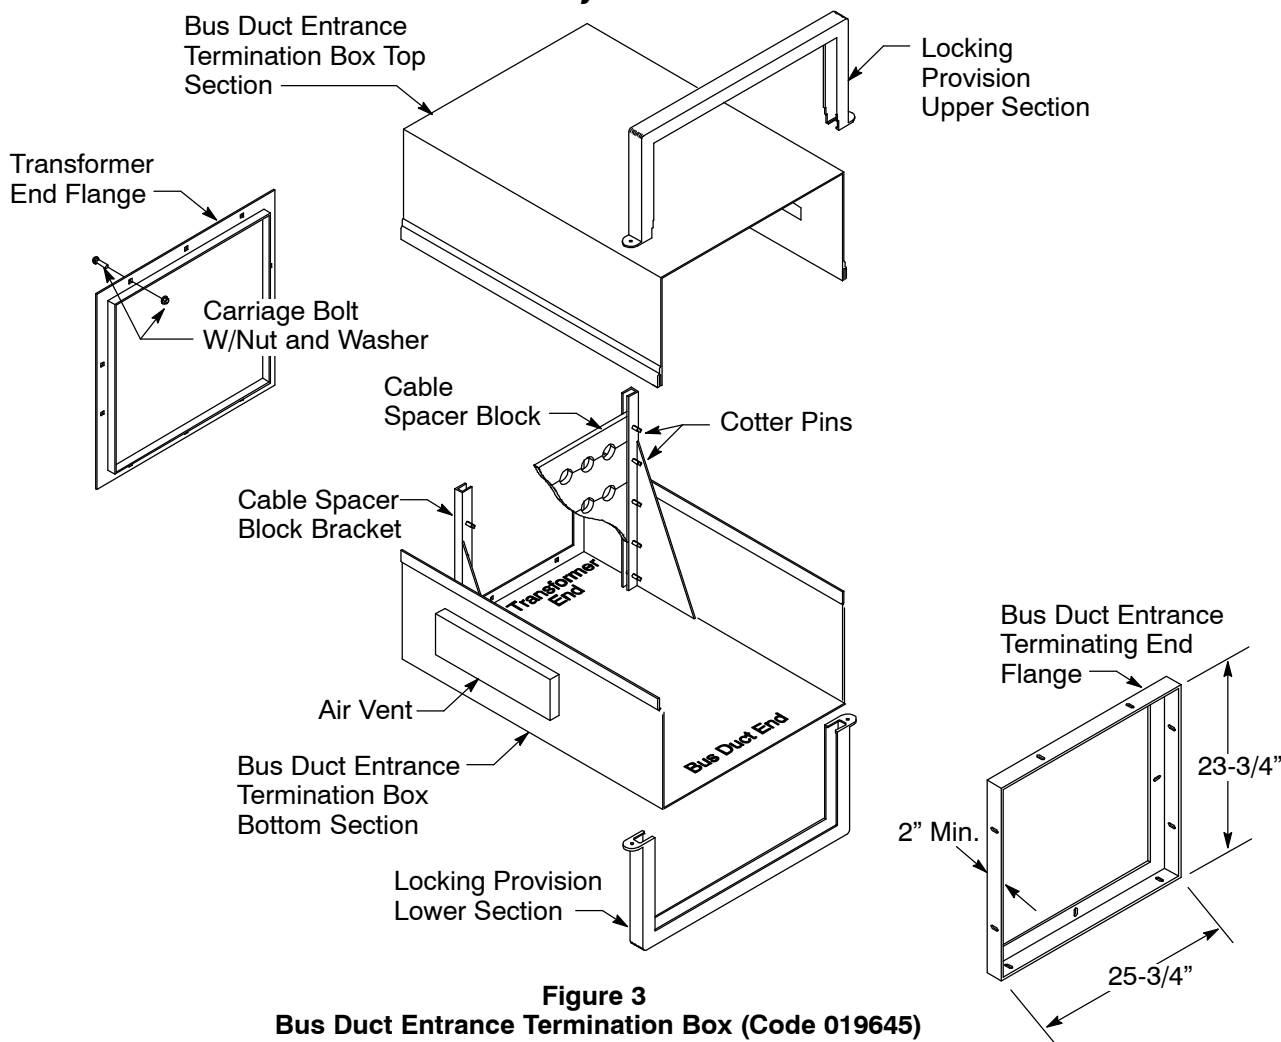

Figure 3
4. Bus duct connections in transformer (see Figure 3 on Page 5)